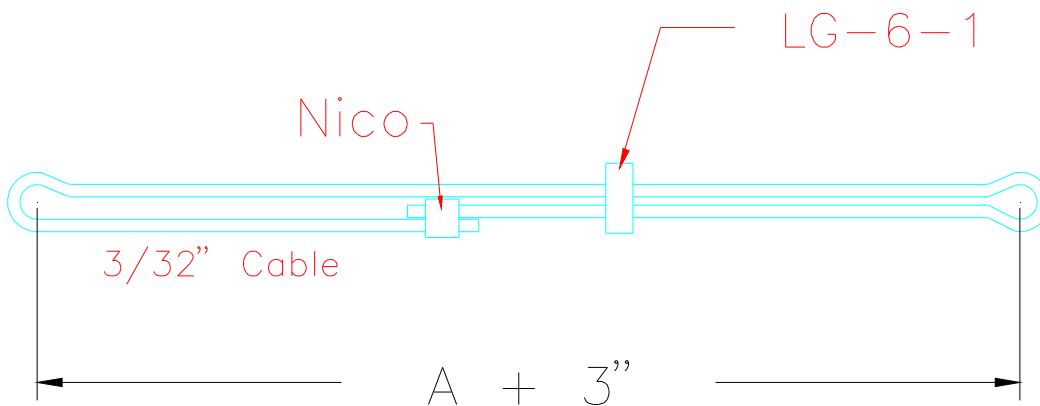

Figure 15.1.5
8) Assemble two safety cables using the measurement plus 3". Figure 15.1.5. Before swaging the one end, slip it into the Delrin Bushing (LG-6-1).